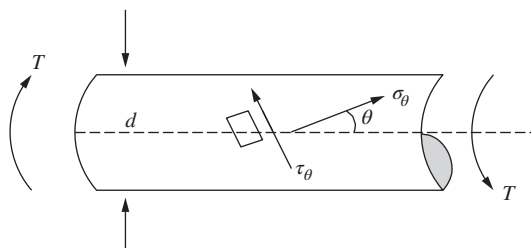

Figure P8.40 Applied torque and internal stresses in a shaft.
- 8-40.** Consider a shaft subjected to an applied torque T , as shown in Fig. P8.40. The internal normal and shear stresses at the surface vary with the angle relative to the axis and are given by